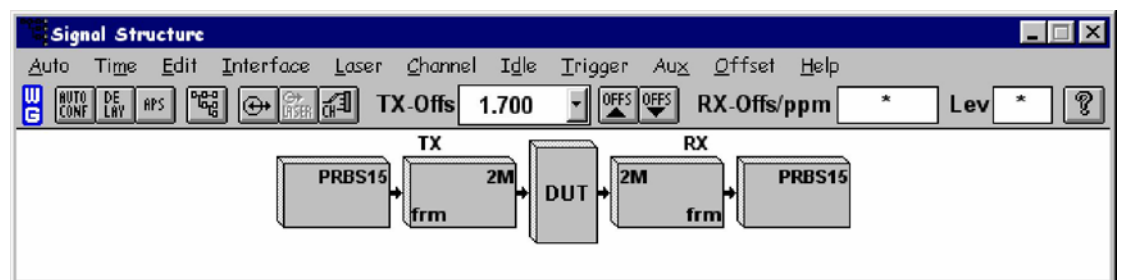

Figure 10 The ANT-20E signal structure window.
Step 1: Go to the ANT-20E interface and open file **Application -*** **Open** in ANT-20 application manager window. Here choose W&G and press OK. On the GUI you will find it is configured to perform the **Framed-2M-Error**test shown in Figure 10. That is, the ANT-20E tester produces a test signal (a 2 Mbit/s pseudo-random bit sequence or PRBS) that is sent to the device under test (DUT), which is the SDH network. The test signal is then sent back from DUT to ANT-20E to measure and observe the performance of the DUT.